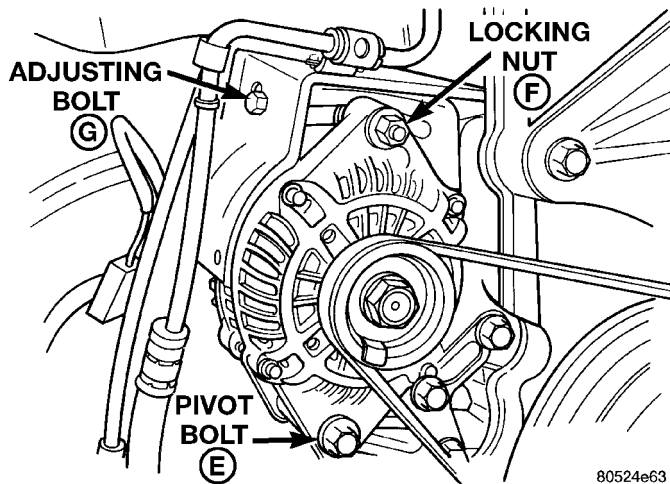

Fig. 27 Generator Adjustment
- Loosen pivot bolt E then locking nut F and adjusting bolt G (Fig. 27) to remove and install belt and/or adjust belt tension.